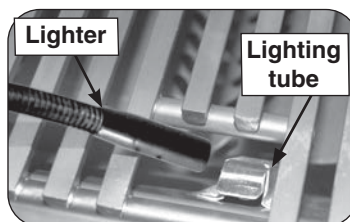

Fig. 25-2 Manual lighting via lighting tube
**CAUTION:** Always wait five (5) minutes for gas to clear after any unsuccessful lighting attempt.
2. Insert either a burning long-barrel butane lighter or a burning long-stem match through the cooking grid opening to the top of the lighting tube (see Fig. 25-2). For backburners or infrared burners, hold the flame against the surface of the backburner/infrared burner. For sideburners, hold the flame against the burner.